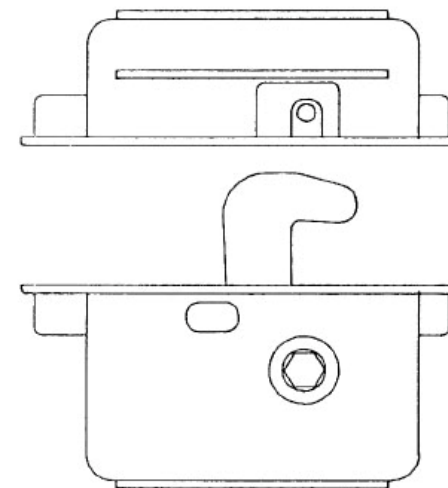

FIGURE 2"—CAM LOCK
- **Joinery:** The Murus Panel has a tongue-and-groove edge. The connection between the panels is made with a cam lock system, which consists of two parts, as shown in Figure 2 of this report. The cam lock is located along the vertical edge of the Murus Panel at 2-foot intervals, beginning 1 foot from the top or bottom of the panel. Two Murus panels are secured together by aligning two Murus Panels with cam locks next to each other, with spray foam applied to the tongue (or groove) of one panel, and rotating the cam turning gear in the cam lock with a hex head wrench. After the connection is completed, spray foam is applied in the exterior channel between the two panel skins. The excess foam is removed prior to the application of the exterior wall covering.